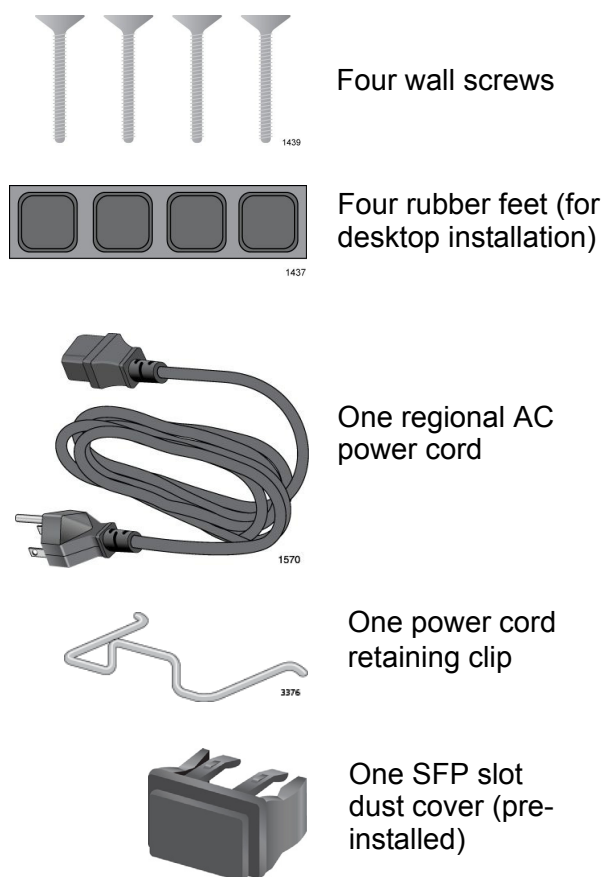

Figure 16. AT-PC2000/SP Shipping Package Contents
- Figure 16 on page 40 shows shipping container items for the AT-PC2000/SP.